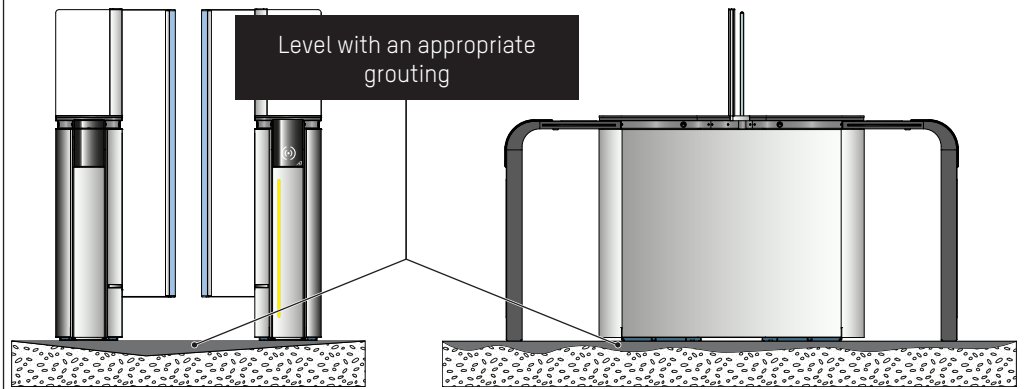

Fig. 23 - Levelling the floor
- If the floor is uneven or has an uneven surface, Automatic Systems recommends grouting as shown below. (⇒ Fig. 23)